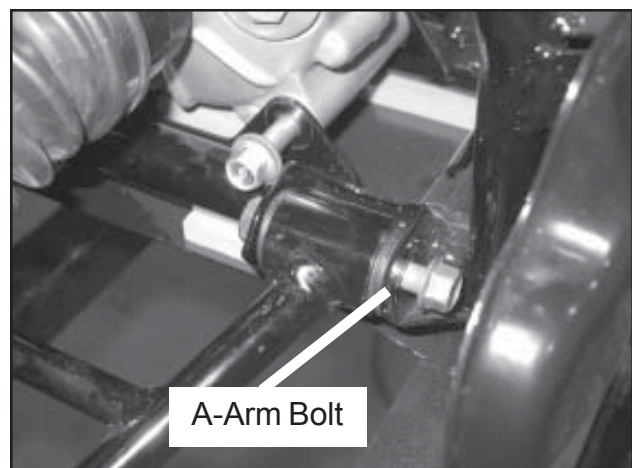

Figure 4 A-Arm Bolt
3. It maybe necessary to loosen the A-arm bolts to remove the differential bolts. It is not necessary to remove the bolts. Just loosen and slide bolt enough to remove the differential bolts. **Figure 4** shows the front right A-arm bolt loosened and moved to allow the front differential bolt to be removed.